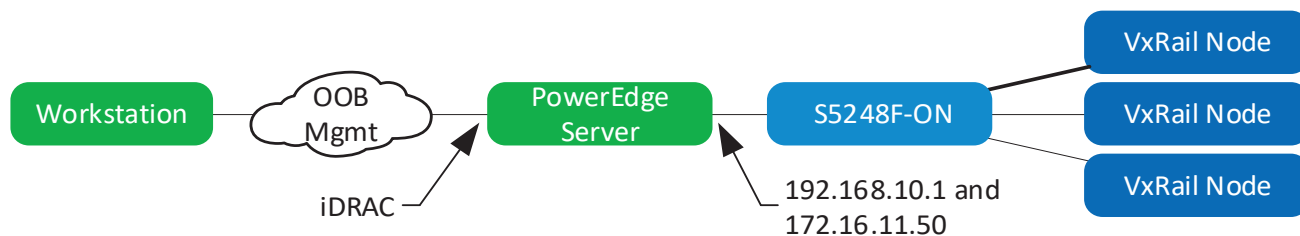

Figure 16 PowerEdge server as a jump box
If a PowerEdge server is used as a jump box, make the connections, as shown in Figure 16. Access the jump box's operating system from a workstation using the iDRAC virtual console.
**Note:** This deployment uses a PowerEdge server as a jump box that is also in the roles of DNS and NTP server. It may be connected to both leaf switches for redundancy using NIC teaming. Figure 16 shows a single connection from a jump box to a leaf switch for clarity. Port-group1/1/3 on the S5248F-ON is set to 10GbE to allow connectivity to a 10GbE NIC on the jump box. See Appendix B for information on S5248F-ON port-group configuration.